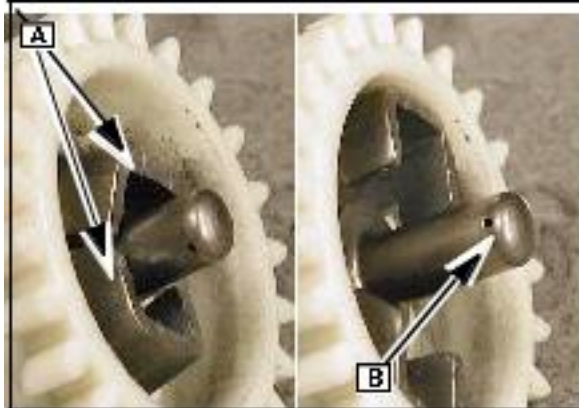

Fig. 1
A governor system operates by transmitting engine RPM through a pair of flyweights (A) that retract and extend a sliding cup (B) (Fig. 1).